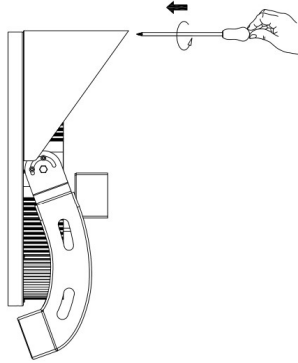
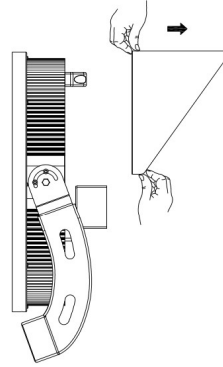

FIG.1
FIG.2
1) Dismount 6 pcs screws which are used to fix shroud onto the fixture (anticlockwise direction), take the shroud down. (See FIG.1 and FIG.2)